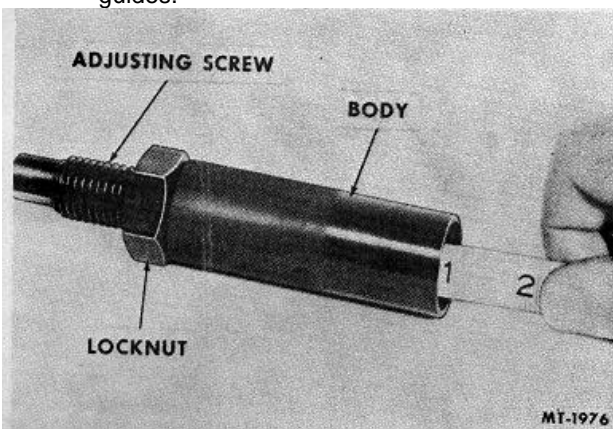

Fig. 128 Adjusting Valve Guide Installer for Proper Height
4. Adjust valve guide installer tool SE-1943 (Fig. 128) for specified valve guide height above cylinder head. (See SPECIFICATIONS). Tool is designed to install both intake and exhaust guides.